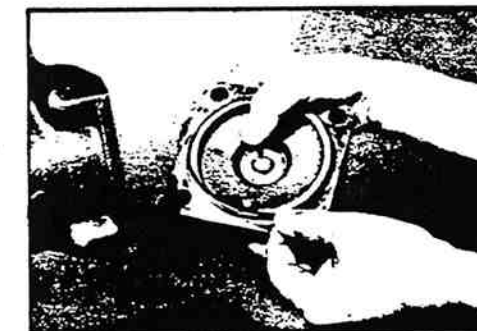

Figure 11-25. O-ring Removal.
21. Remove and discard the end cover O-ring (24) from the end cover (26) (figure 11-25).